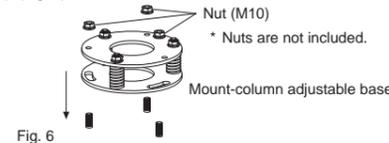

Fig. 6
- Insert the stud bolts into the mounting holes of the Mount-column adjustable base and securely tighten the Nuts (M10). (Fig. 6)